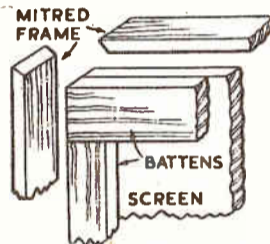

Fig. 2—Detail of construction
Round the edge of this is put a flat strip composed of the frame (E) and (F). These  $\frac{3}{4}$  in. wide pieces are glued with the back edge flush with the back of the frame, so there is about  $\frac{1}{2}$  in. projection at the front. The corner ends are mitred carefully with plane or file, to make a good joint. A detail of one of the corners is given in Fig. 2.